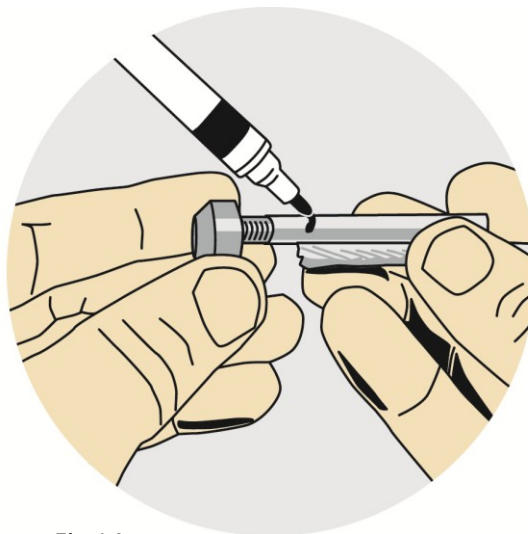

Fig 14
- Insert a piece of cable into the receiver end of the Swage Button End (Fig. 14) and mark on the fitting that indicates how far the cable penetrates.